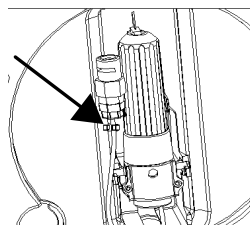

Fig.9
1. Place the CO₂ connection hose next to the CO₂ cartridge sheath. Neither of these components is required for Heineken kegs (Fig. 9).